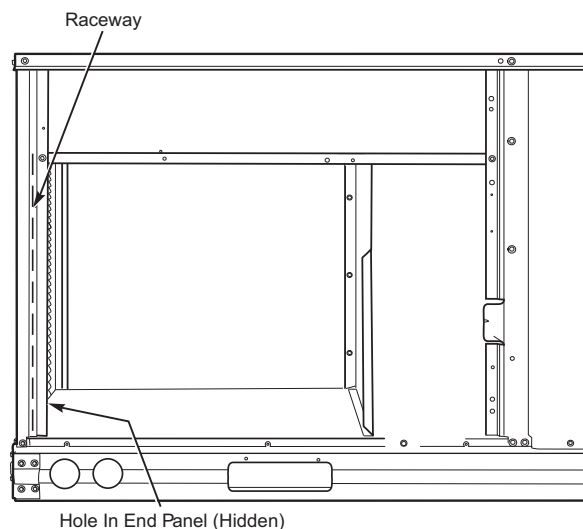

Fig. 34 — Field Control Wiring Raceway
The RGF unit requires an external temperature control device. This device can be an appropriate field-supplied thermostat. All field added wire must comply with UL and local NEC standards. See “Unit Without Thru-Base Connection Kit” on page 24 and use routing path shown in Fig. 34 to help with compliance as needed.
Pass the thermostat control wires through the hole provided in the corner post; then feed the wires through the raceway built into the corner post to the control box. Pull the wires over to the terminal strip on the upper-left corner of the Controls Connection Board. See Fig. 34.
2. Feed wires through the raceway built into the corner post (see Fig. 34) to the 24v barrier located on the left side of the control box. The raceway provides the UL-required clearance between high-voltage and low-voltage wiring.
2. Feed wires through the raceway built into the corner post (see Fig. 34) to the 24-v barrier located on the left side of the control box. The raceway provides the UL-required clearance between high-voltage and low-voltage wiring.